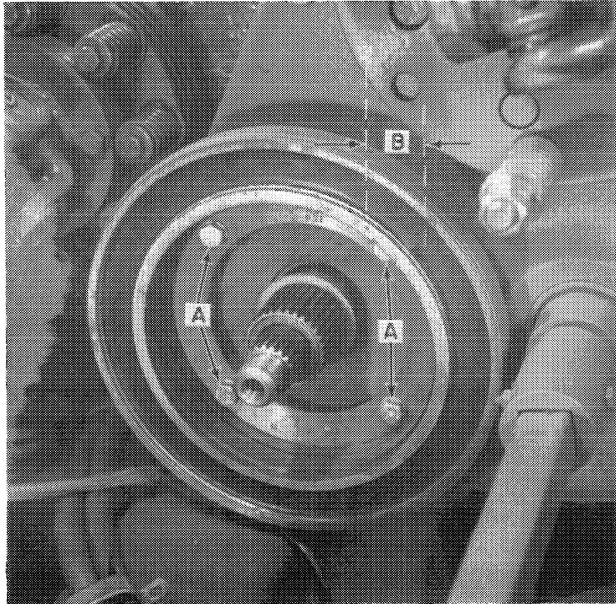

FIGURE 2-12
6. Remove the four cap screws, A, Figure 2-12, to remove the reverse magnet. The two wires fastened to the magnet can be removed after the magnet is removed.
1. Install the reverse magnet. The two wires should be fastened to the magnet before installation. The terminals should be positioned at B, Figure 2-12.